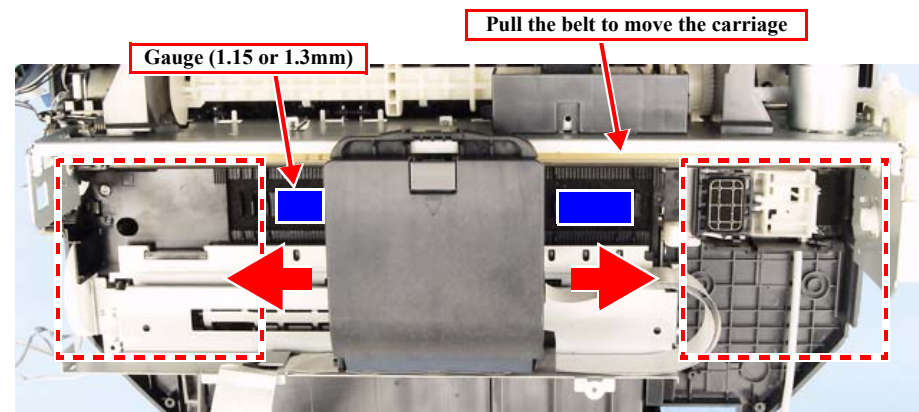

Figure 5-9. PG Adjustment 1
4. Move the carriage to the center of the platen, and place 1.15 mm thickness gauge on the left aligning its left edge with the second rib of the Front Paper Guide. And place another 1.15 mm thickness gauge on the right aligning its right edge with the rightmost rib of the Front Paper Guide. (Fig. 5-9)